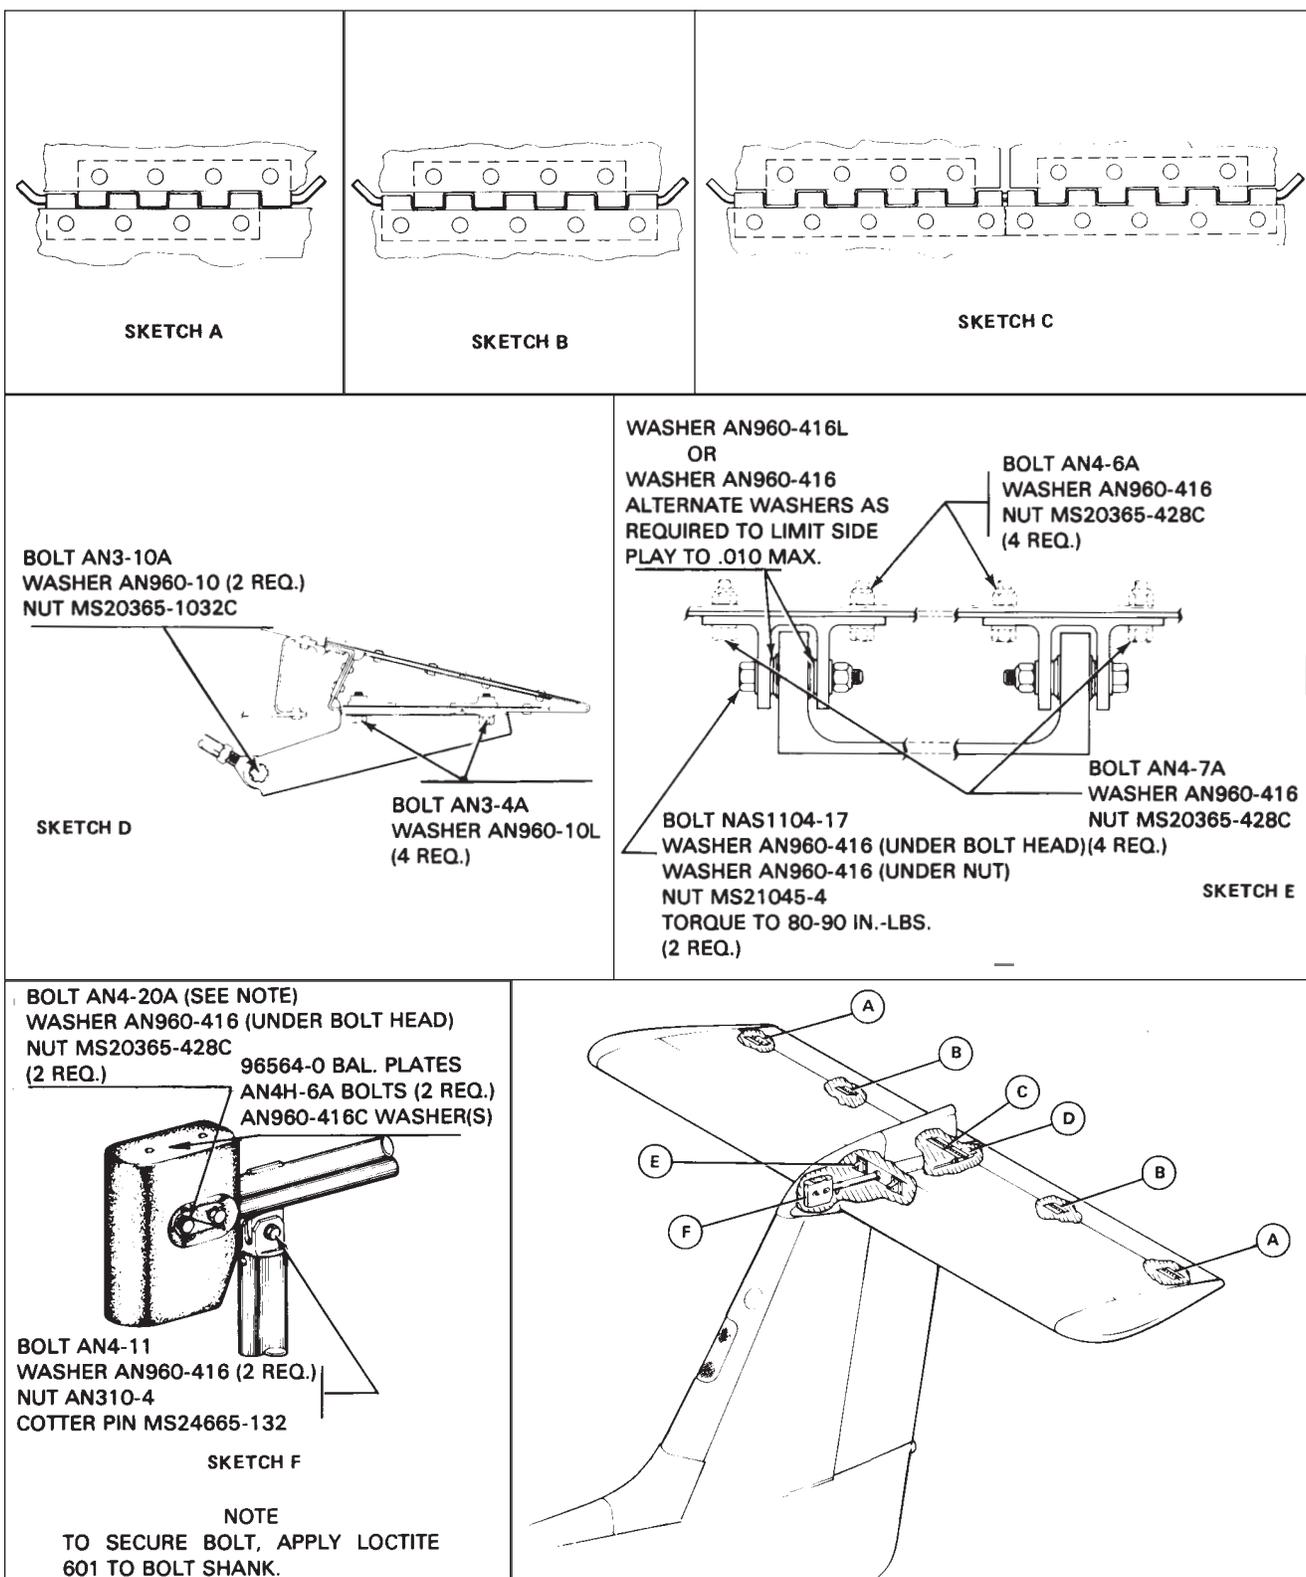

Figure 55-1. Stabilator Installation
**REMOVAL AND INSTALLATION OF STABILATOR.** (Refer to Figure 55-1.)
**REMOVAL AND INSTALLATION OF STABILATOR TRIM TAB.** (Refer to Figure 55-1.)